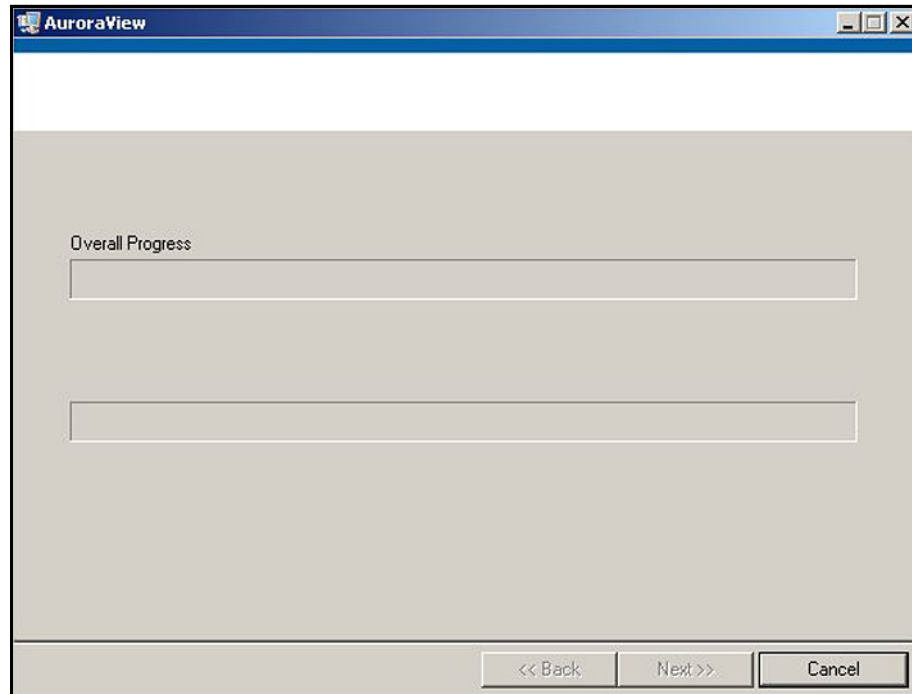

Figure 57: Overall Progress
8. During installation, the screen shown in *Figure 57* below appears.